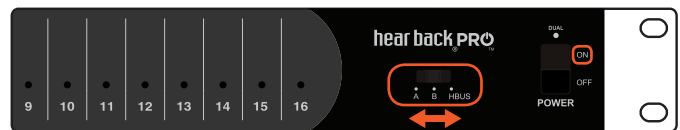

Figure 1
2. Immediately after logo turns **BLUE**, slide the "Input Selector Switch" through all "A,B,HBUS" options, then return to the original selection (**Figure 1**).